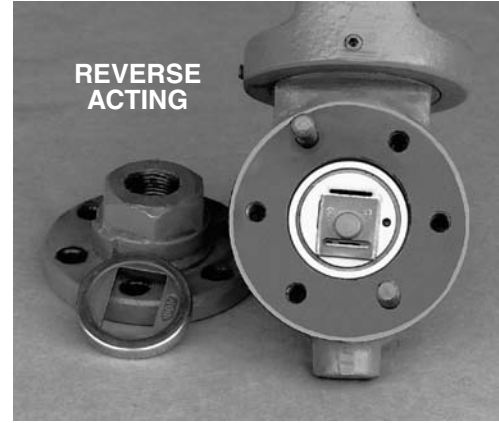

Figure 42
If the hole in the valve plate is to the left and the slot in the valve disc is on the top this valve is set for Direct Acting (see figure 41). To change the action of the valve to Reverse Acting simply rotate the valve plate and the valve disc 180° so that the hole on the plate is on the right and the slot on the disk is at the bottom (see figure 42).
- Install the valve-plate and valve-disk for reverse action (see figure 42).